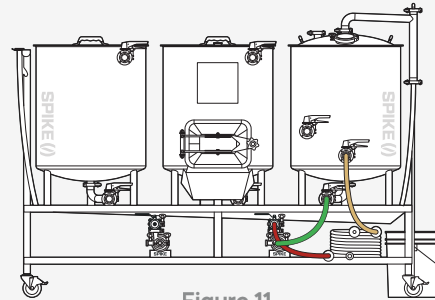

Figure 11
16. Attach the (Green) hose from the BK drain to the wort pump inlet. (see **Figure 11**)
17. Attach the (Red) hose from the wort pump outlet to the “Wort Out” port on the chiller. Attach the (Gold) hose from the “Wort In” port of the chiller to the BK racking port. (see **Figure 11**)